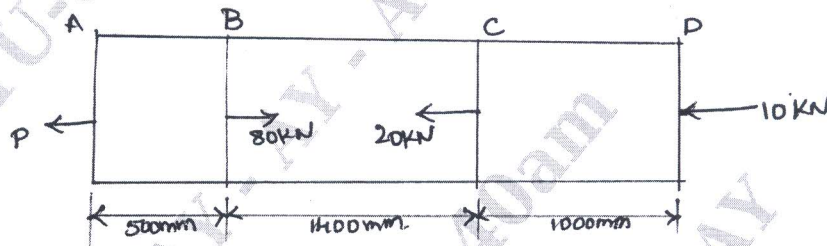

Fig.Q1(b)
- A brass bar having of uniform cross sectional area of  $300\text{mm}^2$  is subjected to a load as shown in Fig.Q1(b). Find the total elongation of bar and the magnitude of load P if Young's modulus is 84 GPa.